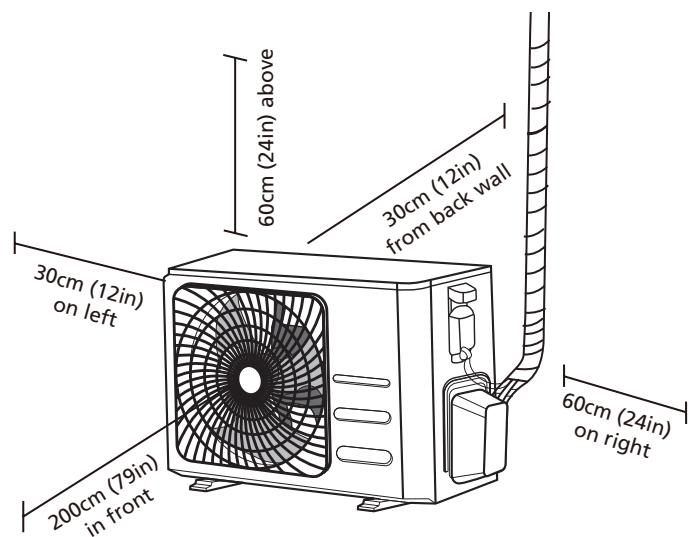

Fig. 4.1
- Meets all spatial requirements shown in Installation Space Requirements (Fig. 4.1)